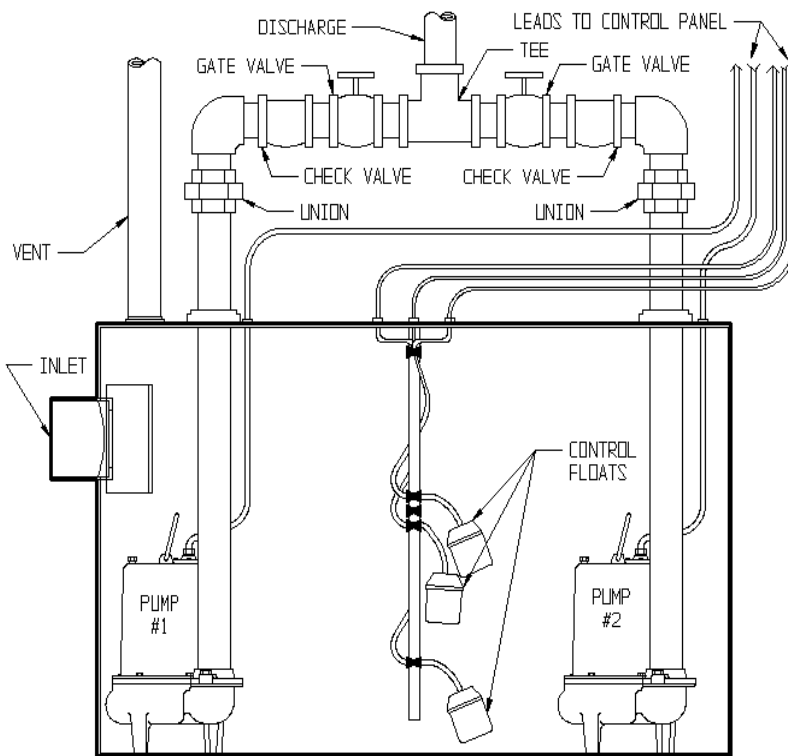

Fig. 3 – Typical Installation Duplex System
B. Duplex (Two Pump) Systems (see Fig. 3):